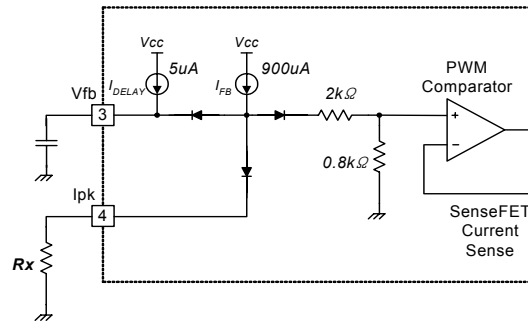

Figure 13. Peak Current Limit Adjustment
8. Adjusting Peak Current Limit : As shown in Figure 13, a combined $2.8\text{k}\Omega$ internal resistance is connected to the non-inverting lead on the PWM comparator. A external resistance of Rx on the current limit pin forms a parallel resistance with the $2.8\text{k}\Omega$ when the internal diodes are biased by the main current source of $900\mu\text{A}$.